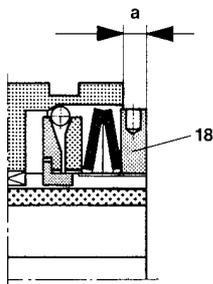

Fig. 12
1. Remove the set screw (19).
3. Set dimension "a" by turning the adjusting nut (18) according to Fig. 12.
4. Correct the adjustment if necessary, until a threaded hole for the set screw (19) meets one of the 4 hub keyways.
5. Screw the set screw (19) into the hub keyway.